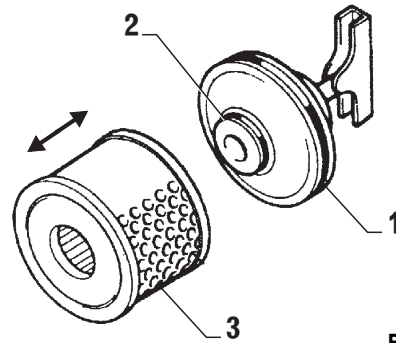

FIG. 7-1
- Wet new O-rings (item 1 and 2, Fig. 7-1) with some ATF fluid and mount.
Fit new filter element (item 3, Fig. 7-1)